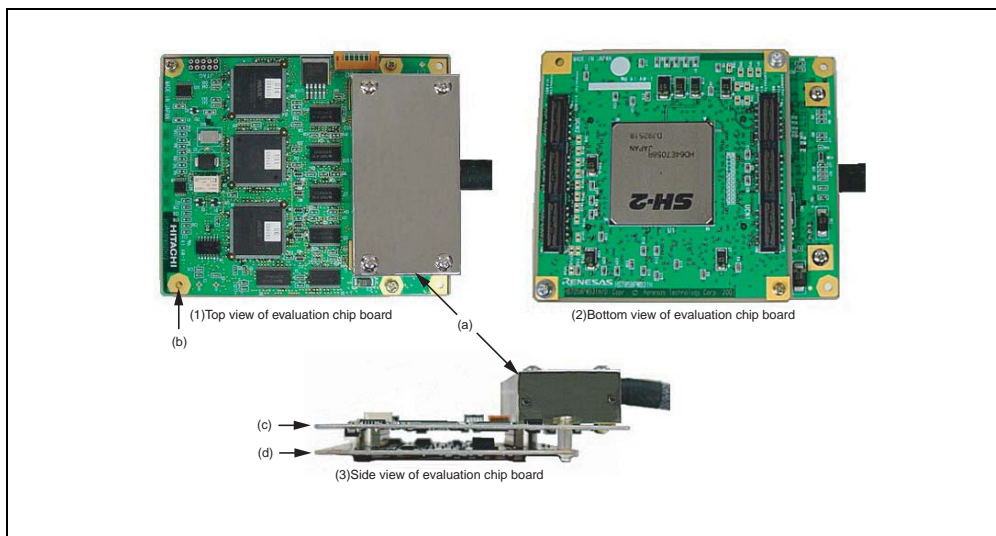

Figure 1.4 Evaluation Chip Board
- (c) HS7058PWB20H board or HS7059PWB20H board: The board has a connector for the trace cable (figure 1.4 shows the HS7058PWB20H board).
- (d) HS7058PWB31H board or HS7059PWB31H board: An evaluation chip is installed on the board, which has a dedicated connector for the user system interface board or user system (figure 1.4 shows the HS7058PWB31H board).